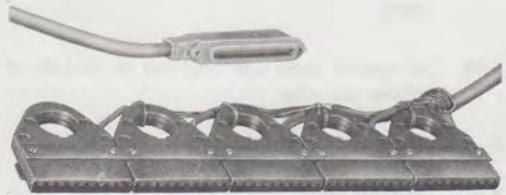

Fig. 21—15-Type Terminal Block
6.05 ♦The 15AA-25 and 15AB-25 (Fig. 21) terminal blocks are used to test system and station operations. These blocks are made up of cables which are terminated on one end with a 50-pin connector which will plug into a key telephone set cord. The other end is terminated on five 961A- or B-type connectors which can be plugged directly onto a 66-type block.